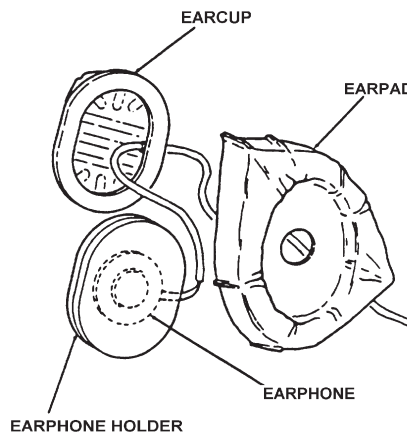

Figure 3-4. Earphones Inserted into Earphone Holders
6. Insert earphones into cavity of earphone holders as shown in Figure 3-4.